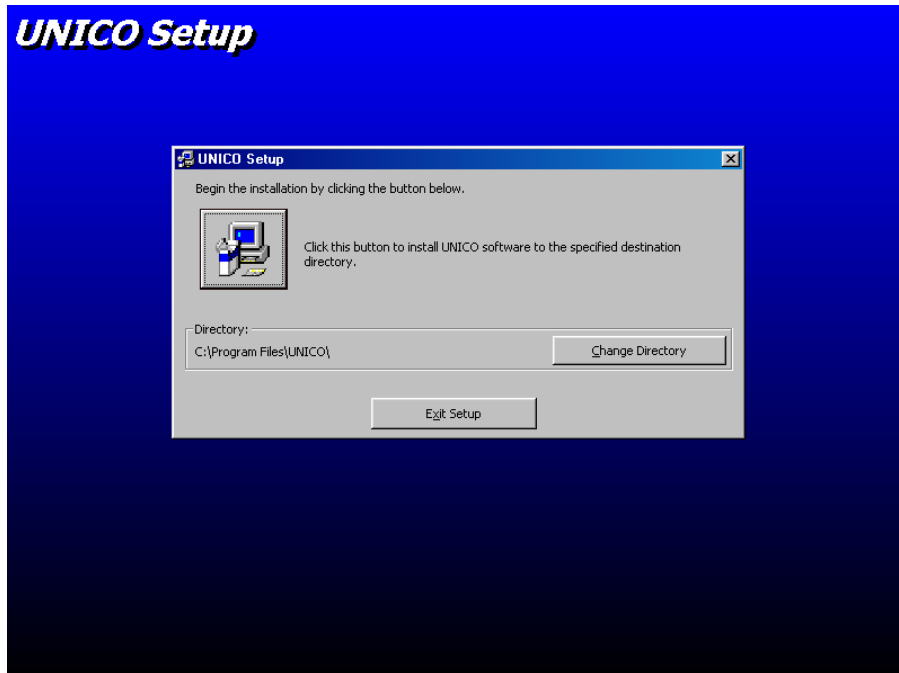

Figure-6 File Setup Directory Selection I
- Step 6: Choose the Directory and **Program Group** where you want the software to be installed as shown in Figure-6 and Figure-7. The **File Setup Directory 1** (Figure-6) will then appear. If the File Path selection is OK, then go to **Step 7**.